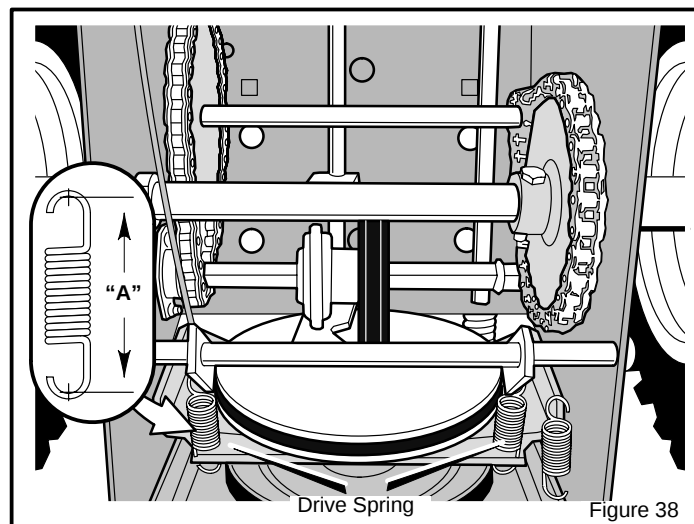

Figure 38
9. To check the adjustment, depress the drive lever and check the length of the **drive spring** (see Figure 38). In correct adjustment, the length of the **drive spring** is